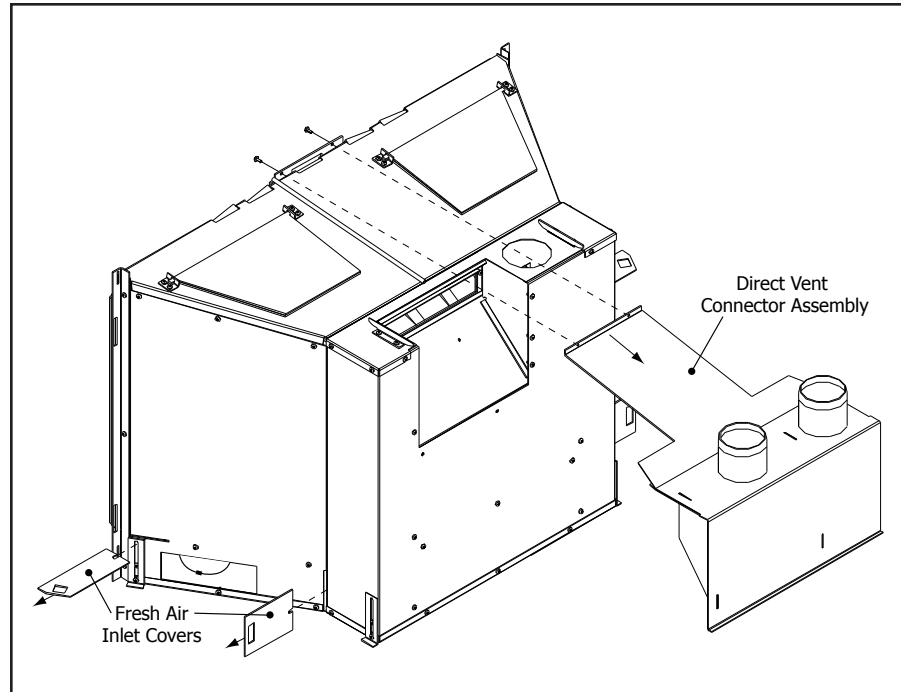
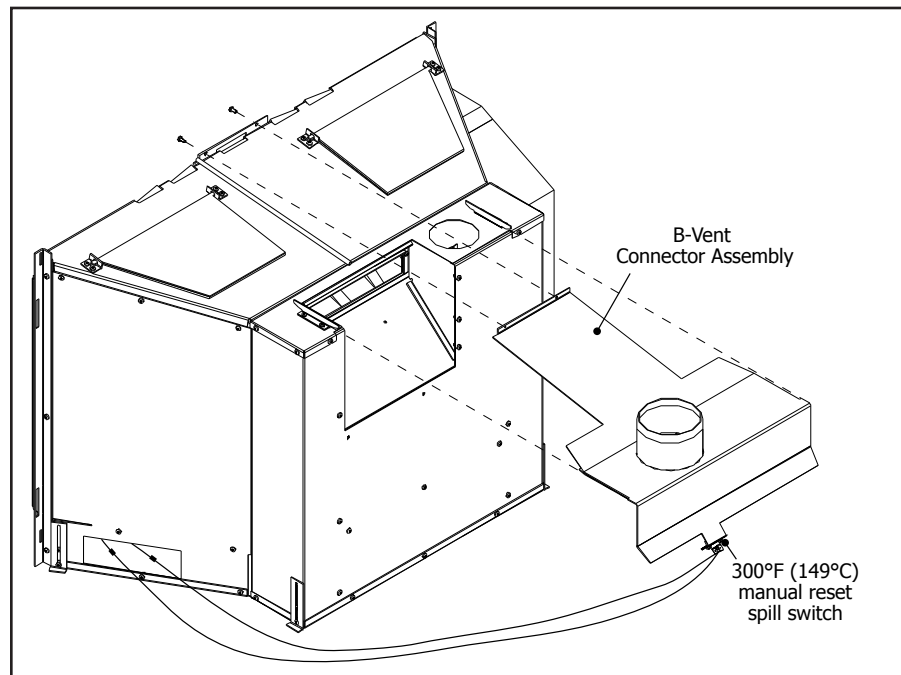

Figure 25: Converting to a BV fireplace.
Figure 26: Converting to a BV fireplace.
2. Remove the two (2) fresh air inlet covers from each side. Cover locations shown in Figure 25.
3. Slide the B-Vent chimney connector assembly into the same position the Direct Vent chimney connector assembly was in. Ensure the tabs are under the brackets at the back and the holes at the front line up. Secure into place with the two (2) T-20 screws at the front of the unit.
4. Disconnect the two (2) blue wires at the opening to the right of the unit and connect them to the 300°F (149°C) manual reset spill switch at the rear of the B-Vent chimney connector with the wires supplied. Refer to Figure 26.